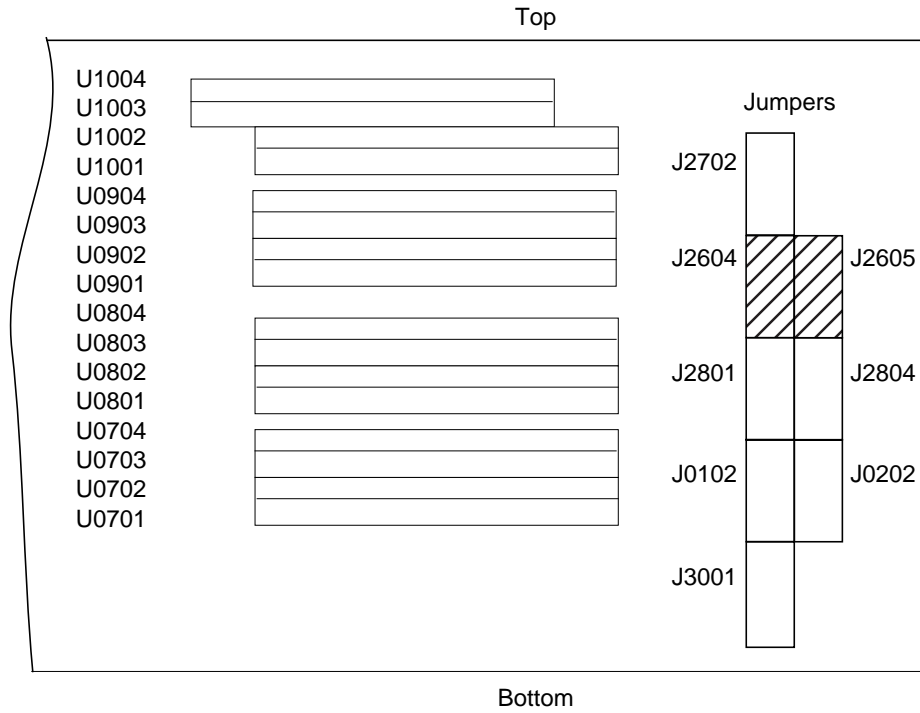

FIGURE 10-9 Location of the Motherboard Serial Port Jumpers
1. Using long-nose pliers, set the motherboard serial port jumpers J2604 and J2605 (TABLE 10-2 and FIGURE 10-9).